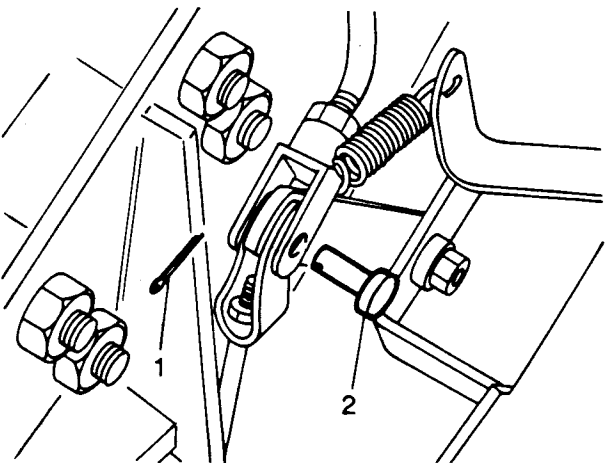

Fig K2.4
- (5) Refer to Fig K2.4. From underneath the vehicle disconnect the cable from the relay lever by removing the split pin (1) and clevis pin (2).
- (6) Remove the cable.
- (1) Fig K2.4 still applies. Under the vehicle, connect the cable to the relay lever and secure with the clevis pin and a new split pin.